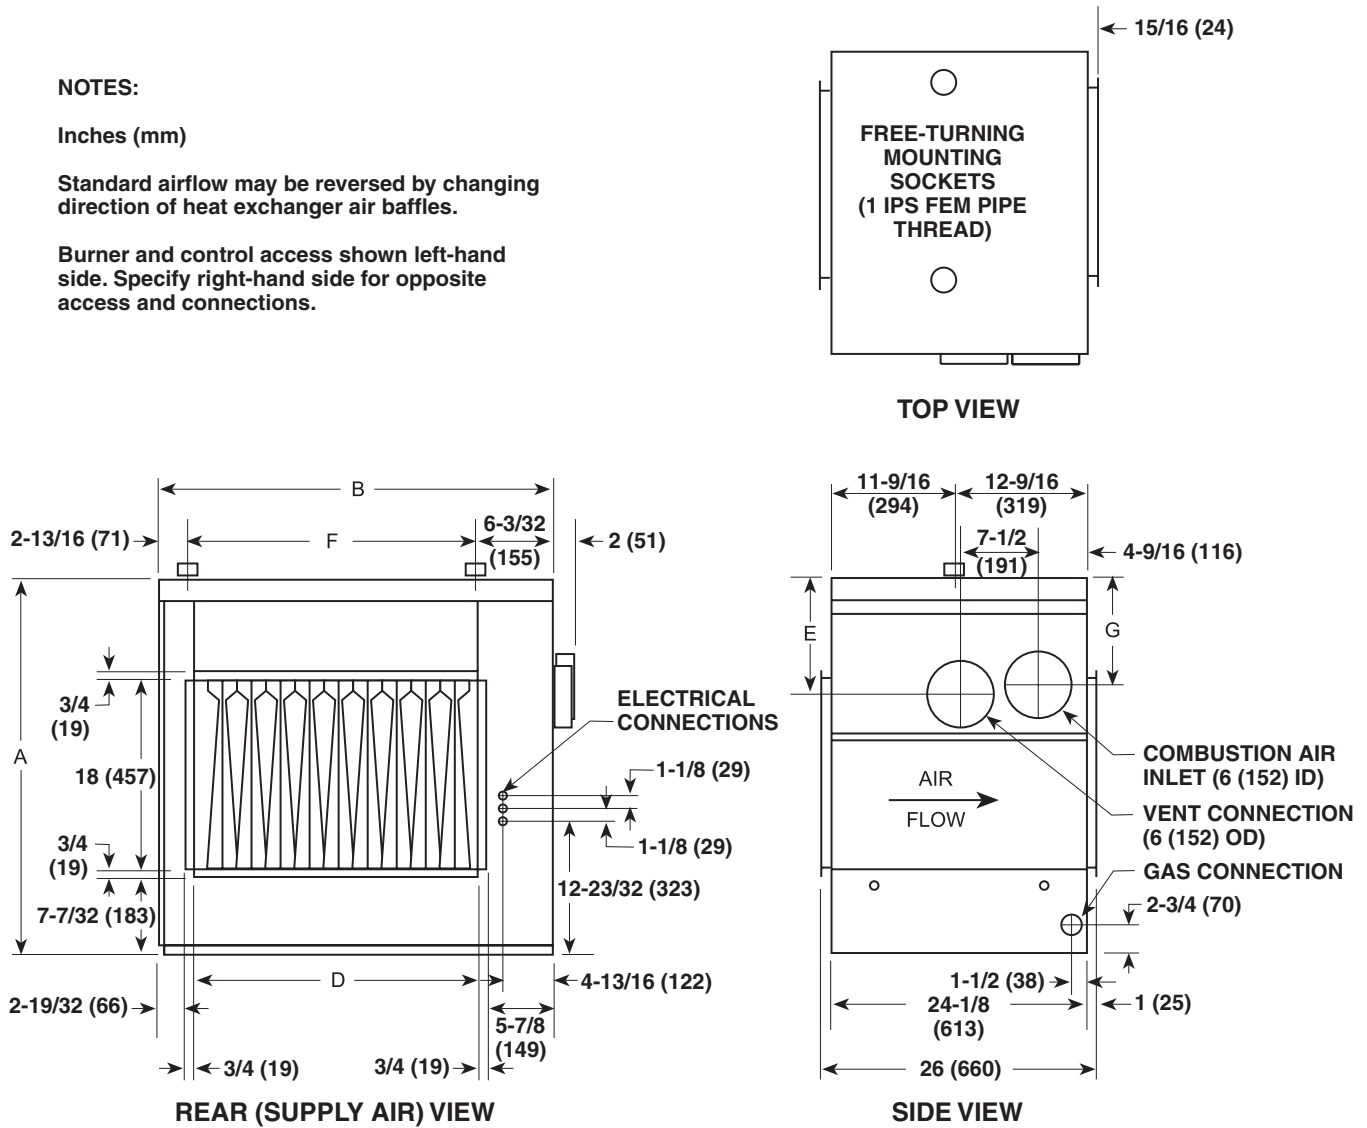
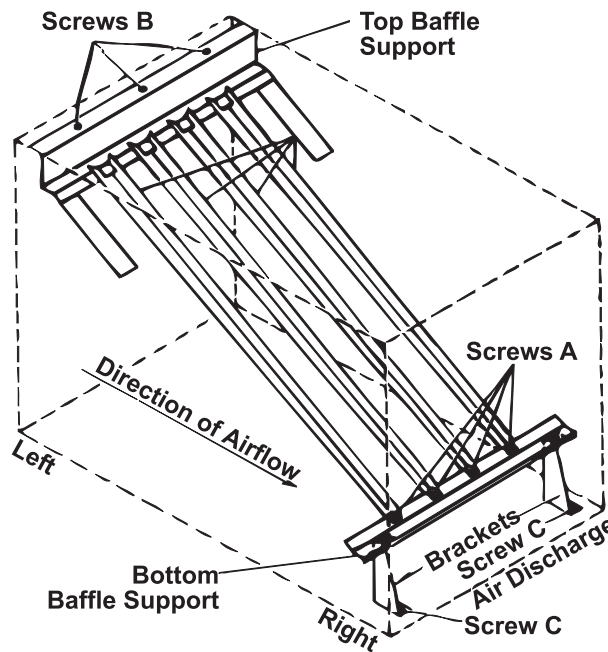

Figure 1. Dimensions (Refer to Table 2)
Figure 2. Heat Exchanger Air Baffles
Dimension (See Figure 1)	Unit Size
1. Remove A screws (see Figure 2) and lift each baffle slightly and slide forward, removing each baffle from heat exchanger.
2. Remove C screws (see Figure 2) and remove bottom baffle support and brackets from heat exchanger.
3. Remove B screws (see Figure 2) and remove top baffle support. Install top baffle support on opposite end of heat exchanger using B screws.
The unit has two-point suspension (see hanger center line dimensions shown in Figure 1). At each suspension point, the unit is factory-equipped with a free-turning, female, 1-inch NPT pipe hanger. Suspend the unit by connecting the pipe hanger to a 1-inch threaded pipe. See Figure 2 for the standard and alternative suspension methods. The factory-installed pipe hanger may be removed and the heater may be suspended as shown in the right view of Figure 2.